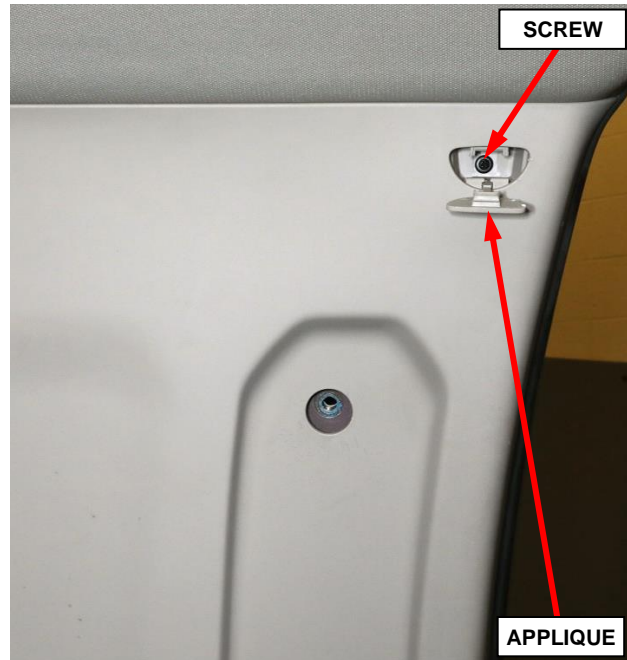

Figure 23 – C-Pillar Upper Trim Panel
- Using a trim stick or equivalent, release the C-pillar airbag applique then remove the screw that secures the upper trim panel (Figure 23).
46. Install and tighten the screw that secures the C-pillar upper trim panel. Then install the airbag applique (Figure 23).